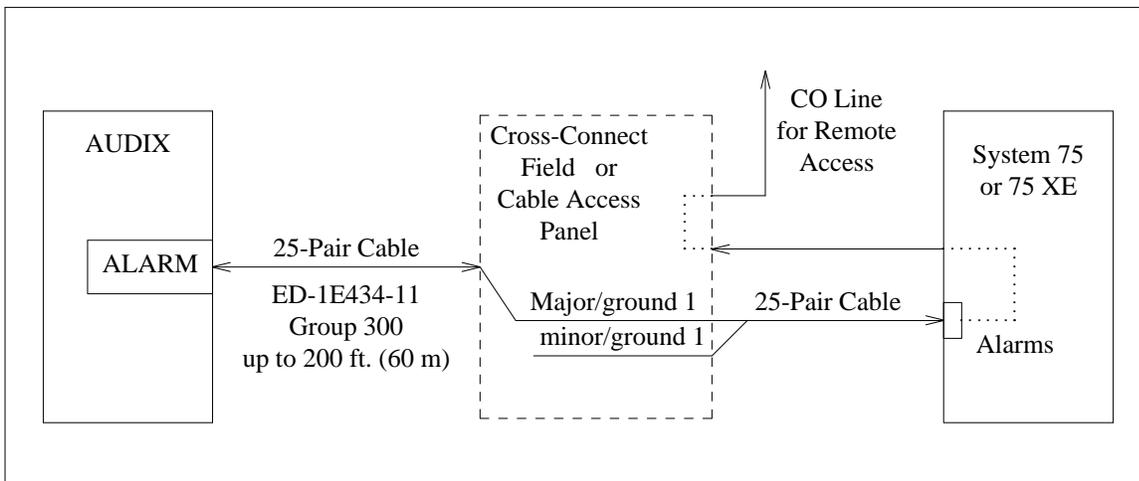

Figure 5: AUDIX System 75 Alarms Link
- Alarms link connecting AUDIX to the switch’s alarm-reporting facilities (recommended for all systems). See figure 5.
A 25-pair cable up to 200 ft (60 m) in length attaches the AUDIX ALARM connector to existing switch-alarm facilities at the cross-connect field or cable access panel (see figure 5). The total length of the connection from the ALARM port to the switch's alarm facilities may be up to 4,900 cable ft (1,493 m). However, the wiring should *never* be run outside of the building.